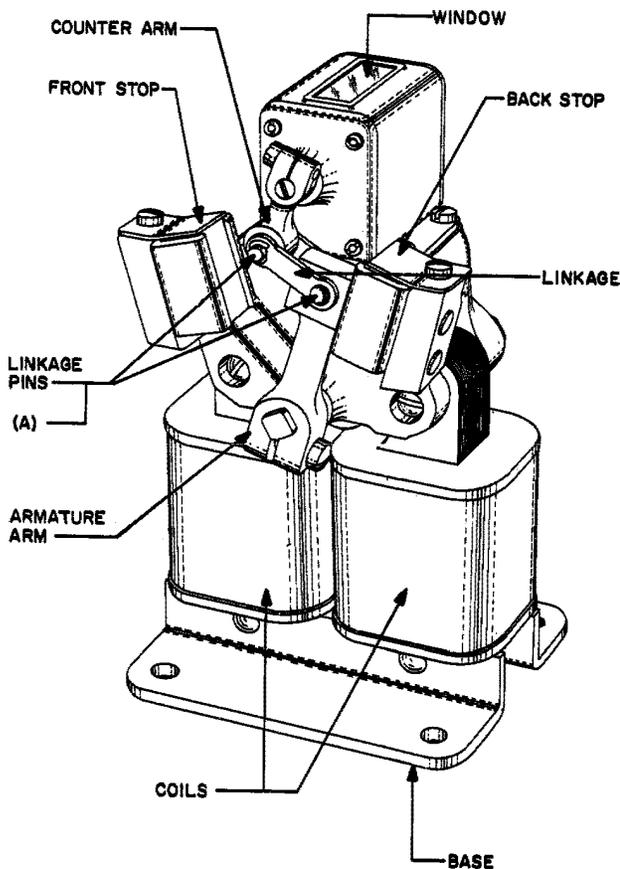

Fig. 2 — KS-7495 Magnetic Counter
(1) **Linkage Pins — Fig 2(A):** One drop of oil to the ends of each pin connecting the linkage to the armature arm and the counter arm.